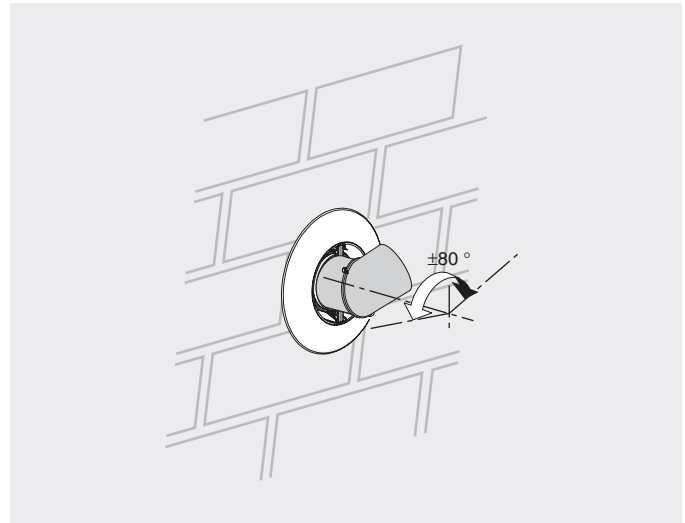

Fig. 13
- The entire termination can now be rotated left or right $\pm 40^\circ$ to redirect the plume (→ Fig. 13).